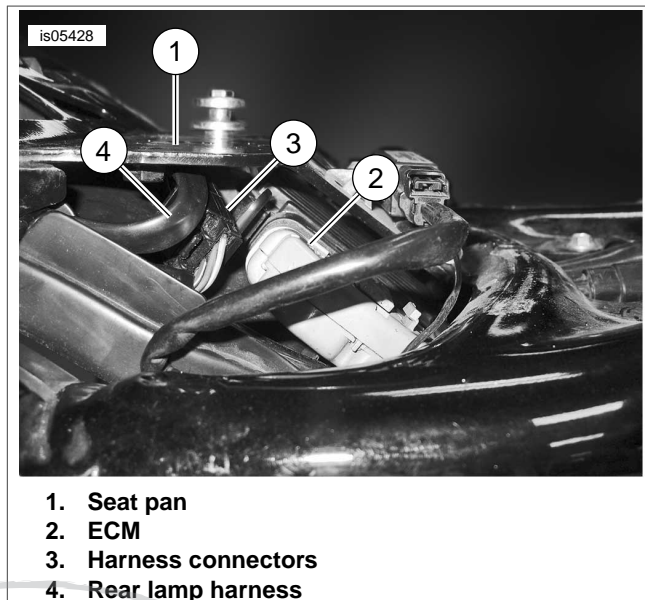
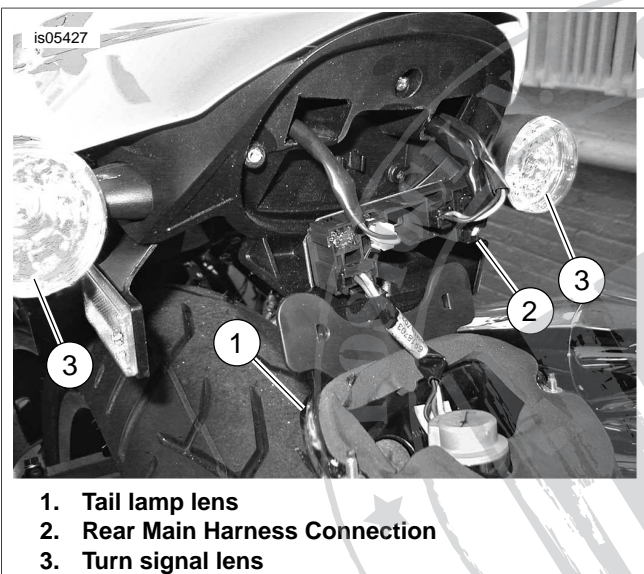

Figure 4. Rear Lamp Module Location
Figure 3. Rear Main Harness Connection
5. See Figure 3. Replace amber lenses the on rear turn signals with the red lenses (3) from the kit.
6. Remove two screws to disconnect tail light lens (1) from tail light housing.
7. Disconnect the existing rear main harness male connector (2) from tail light base assembly connector.
11. See Figure 4. Tuck the new harness module and connector under the seat pan behind the electronic control module (ECM) and secure to frame with cable straps.